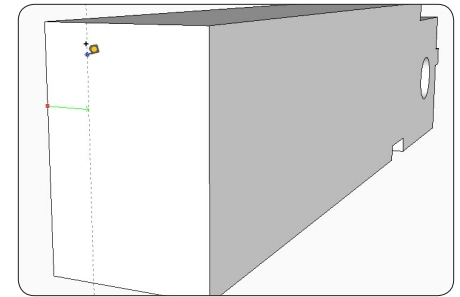

Figure 19. Placing a Parallel Guide Line for a cutout on the end of the piece.
Step 16 The left end of the piece has a cutout. Use the Orbit Tool to move close to the left end of the piece. Begin creating the cutout by placing a Parallel Guide Line $\frac{3}{4}$ in. from the back edge, as shown in Figure 19.